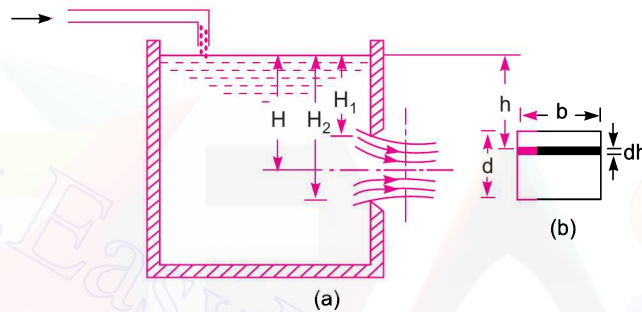

Fig. 7.7 Large rectangular orifice.
**7.6.1 Discharge Through Large Rectangular Orifice.** Consider a large rectangular orifice in one side of the tank discharging freely into atmosphere under a constant head,  $H$  as shown in Fig. 7.7.
Consider an elementary horizontal strip of depth ' $dh$ ' at a depth of ' $h$ ' below the free surface of the liquid in the tank as shown in Fig. 7.7 (b).